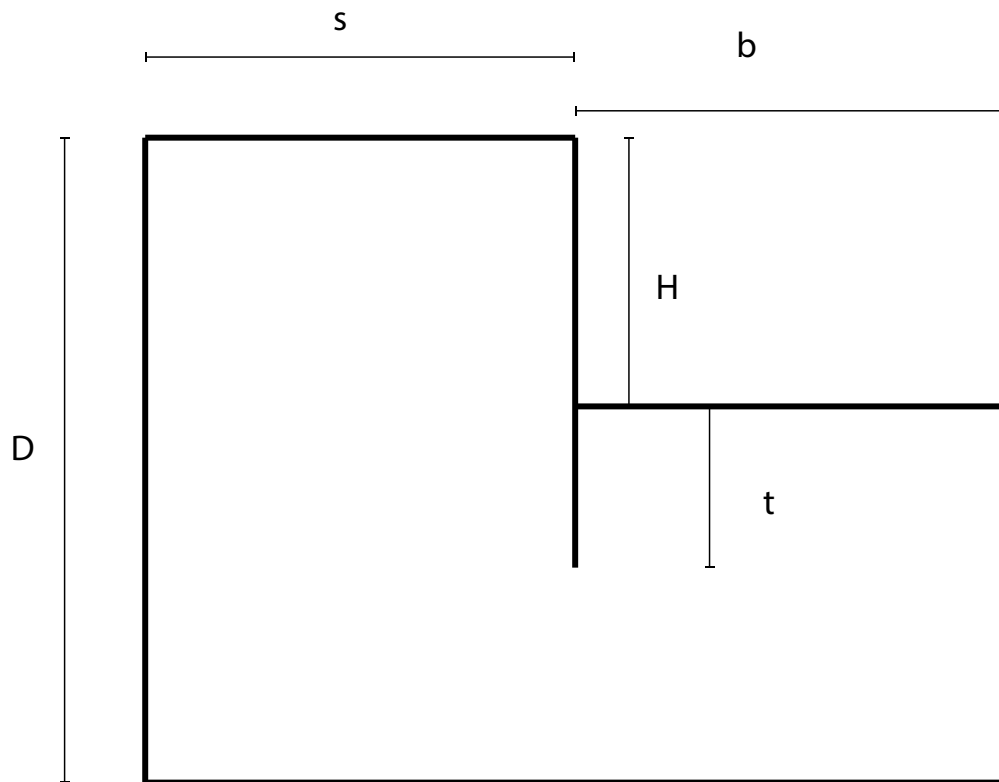

Figure 1: Sketch of a sheet pile wall.
- The sheet pile wall—which is separating the excavation from the ground level (see figure 1)— is impervious (note: we have considered a small thickness of the wall when creating the mesh in order to impose this boundary condition).
So far, you have meshed the problem for arbitrary dimensions (see figure 1), now, you are asked to compute the solution (piezometric head + flux at all the nodes) for the following two particular cases: